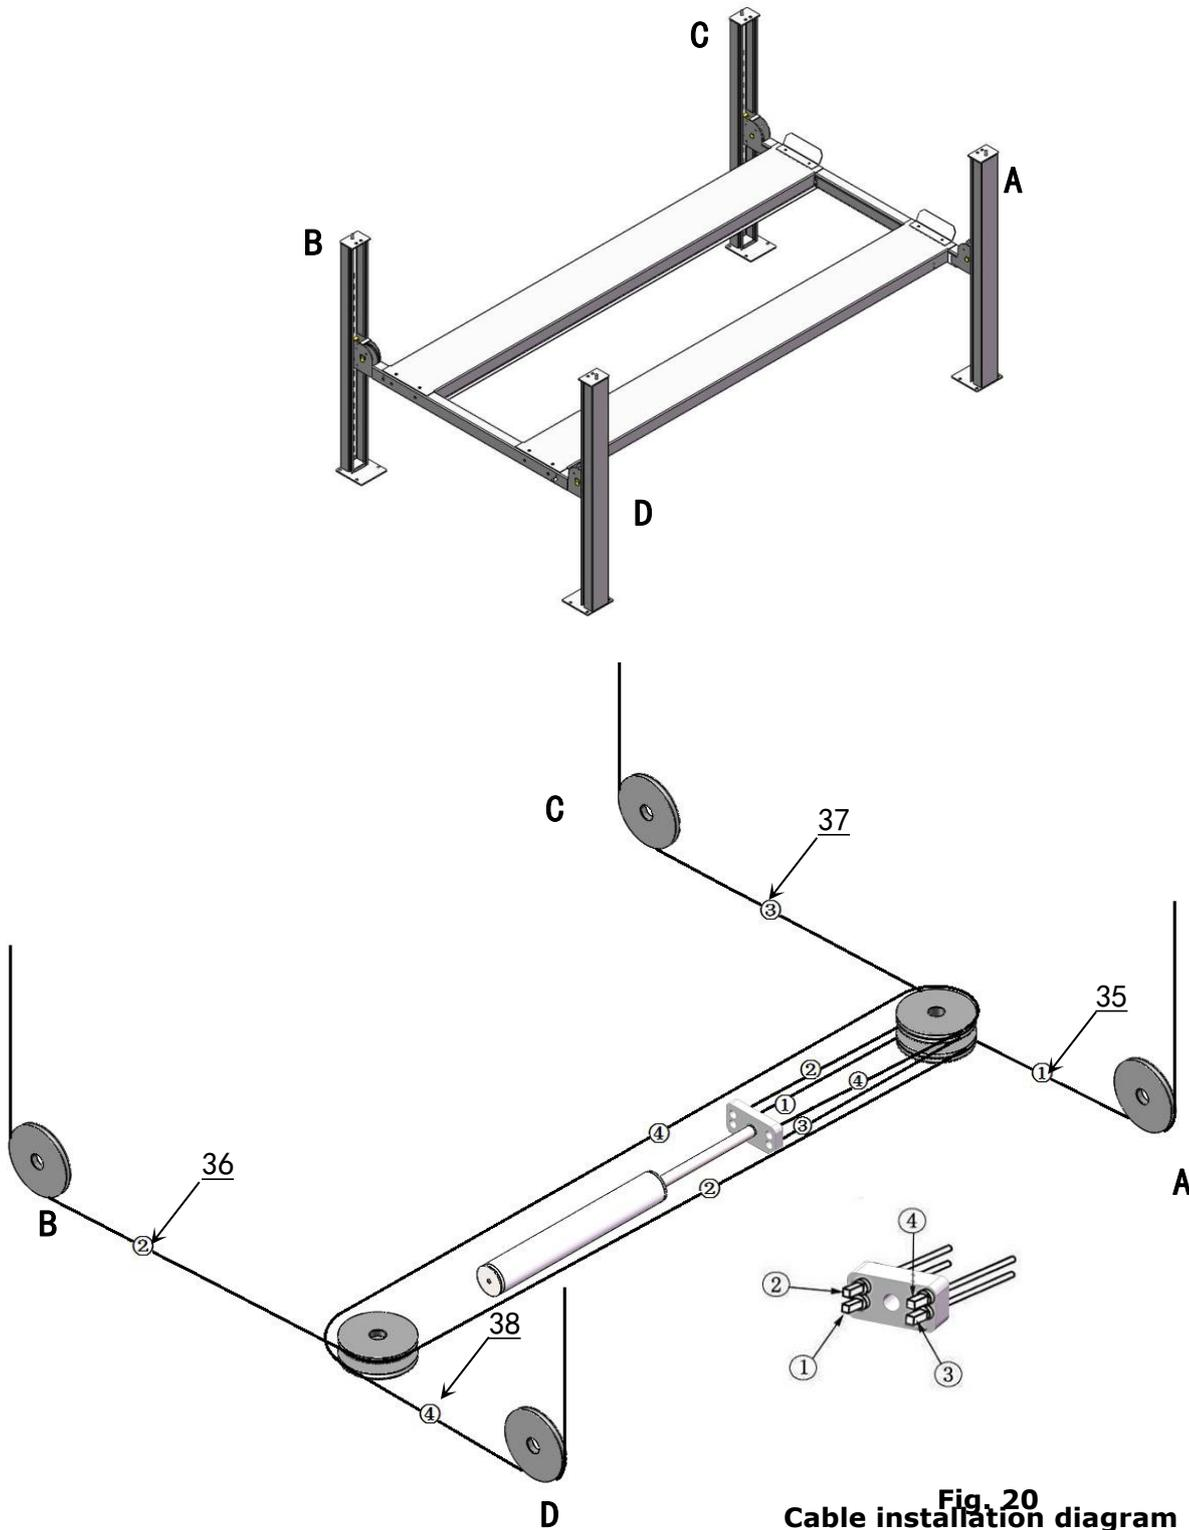

Fig. 20
1. Pass through the cables from the platform to the columns according to the number of the cables (See Fig. 20).